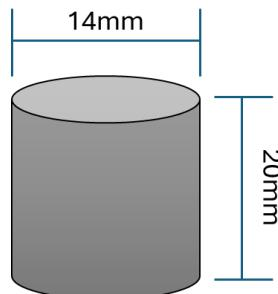

Figure Q1b: Compression sample dimensions
- (b) A cylindrical sample is machined from one of the components as shown in Figure Q1b. A compression test is carried out on the sample. With this information answer the following questions: